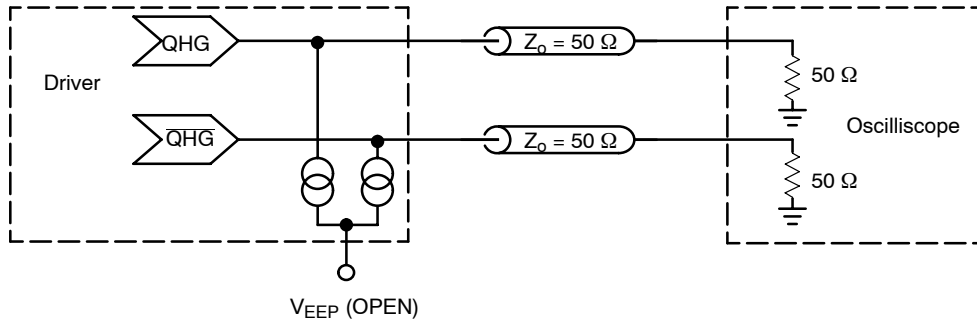
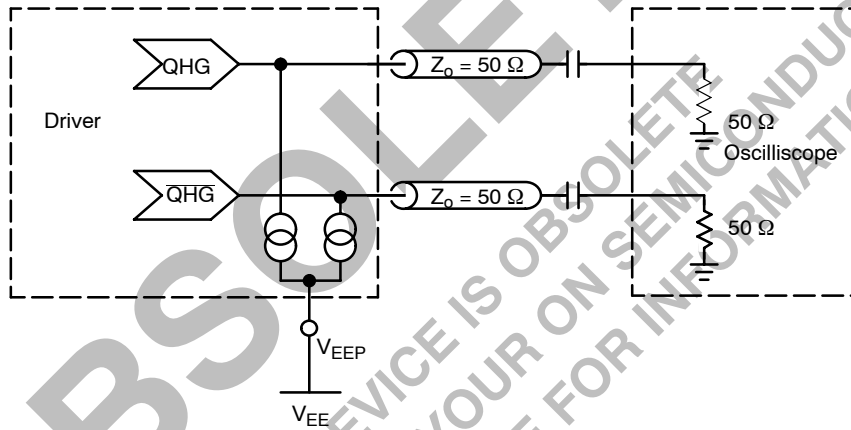

Figure 11. QHG/QHG Device Evaluation Set-up; $V_{EEP} = OPEN$
Figure 12. QHG/QHG Device Evaluation Set-up; $V_{EEP} = V_{EE}$
- QHG/QHG outputs loaded with $50\ \Omega$ to $V_{CC} - 2.0\text{ V}$ ($V_{EEP} = \text{OPEN}$) Figure 11 or with optional current source ($V_{EEP} = V_{EE}$) Figure 12. Q/Q outputs loaded with 8 mA current source (CS_SEL = V_{EE}).
13. QHG/QHG outputs loaded with $50\ \Omega$ to $V_{CC} - 2.0\text{ V}$ ($V_{EEP} = \text{OPEN}$) Figure 11 or with optional current source ($V_{EEP} = V_{EE}$) Figure 12. Q/Q outputs loaded with 8 mA current source (CS_SEL = V_{EE}).
17. QHG/QHG outputs loaded with $50\ \Omega$ to $V_{CC} - 2.0\text{ V}$ ($V_{EEP} = \text{OPEN}$) Figure 11 or with optional current source ($V_{EEP} = V_{EE}$) Figure 12. Q/Q outputs loaded with 8 mA current source (CS_SEL = V_{EE}).